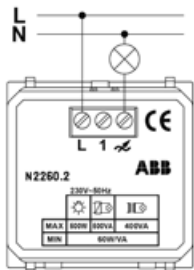
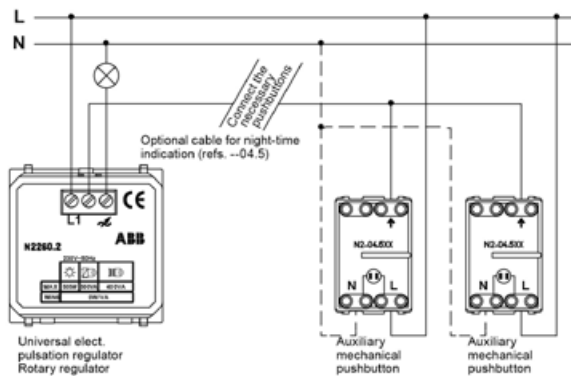

Figure 1:
Figure 2: Special wiring diagram
The electrical wiring for these devices is performed according to the wiring diagram shown in Figure 1.
The terminal indicated with  represents the conductor wiring terminal returning from the load, which is also connected to the neutral conductor of the installation. See Figure 1.
The terminal marked "1" is used to exercise control from several points by means of conventional push buttons. See Figure 2.
If the device is installed individually, follow the instructions indicated in Figure 1.
See Figure 2.
1. Connect the device based on the corresponding wiring scheme. See Figure 1 and Figure 2.